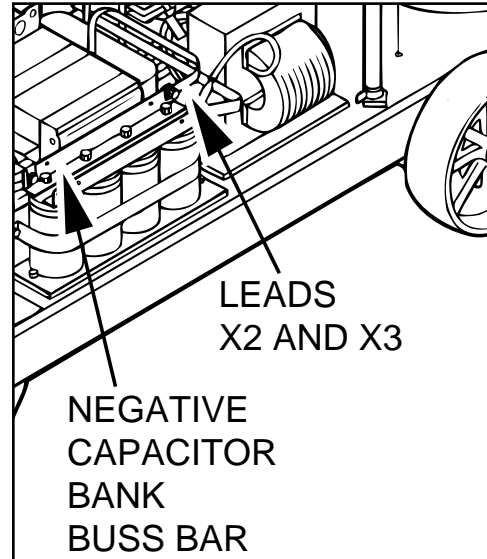

FIGURE F.3 - Location of Leads X2 and X3.
4. Disconnect leads X2 and X3 from the negative capacitor bank using a fi" open end wrench. See Figure F.3.
5. Separate leads X2 and X3 from the negative capacitor bank buss bar. Be sure there is no electrical contact. See Figure F.3.